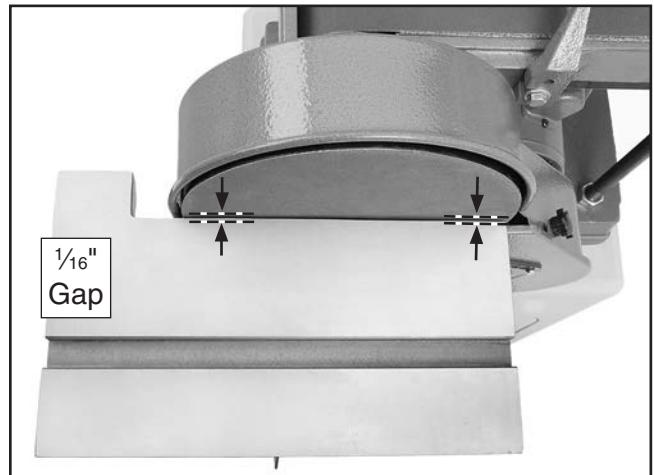

Figure 33. Correct distance between disc and work table.
- 16.** Using a ruler adjust the edge of the work table approximately $\frac{1}{16}$ " away from the sanding disc on both sides (see **Figure 33**), then tighten the set screws on the work table arm.